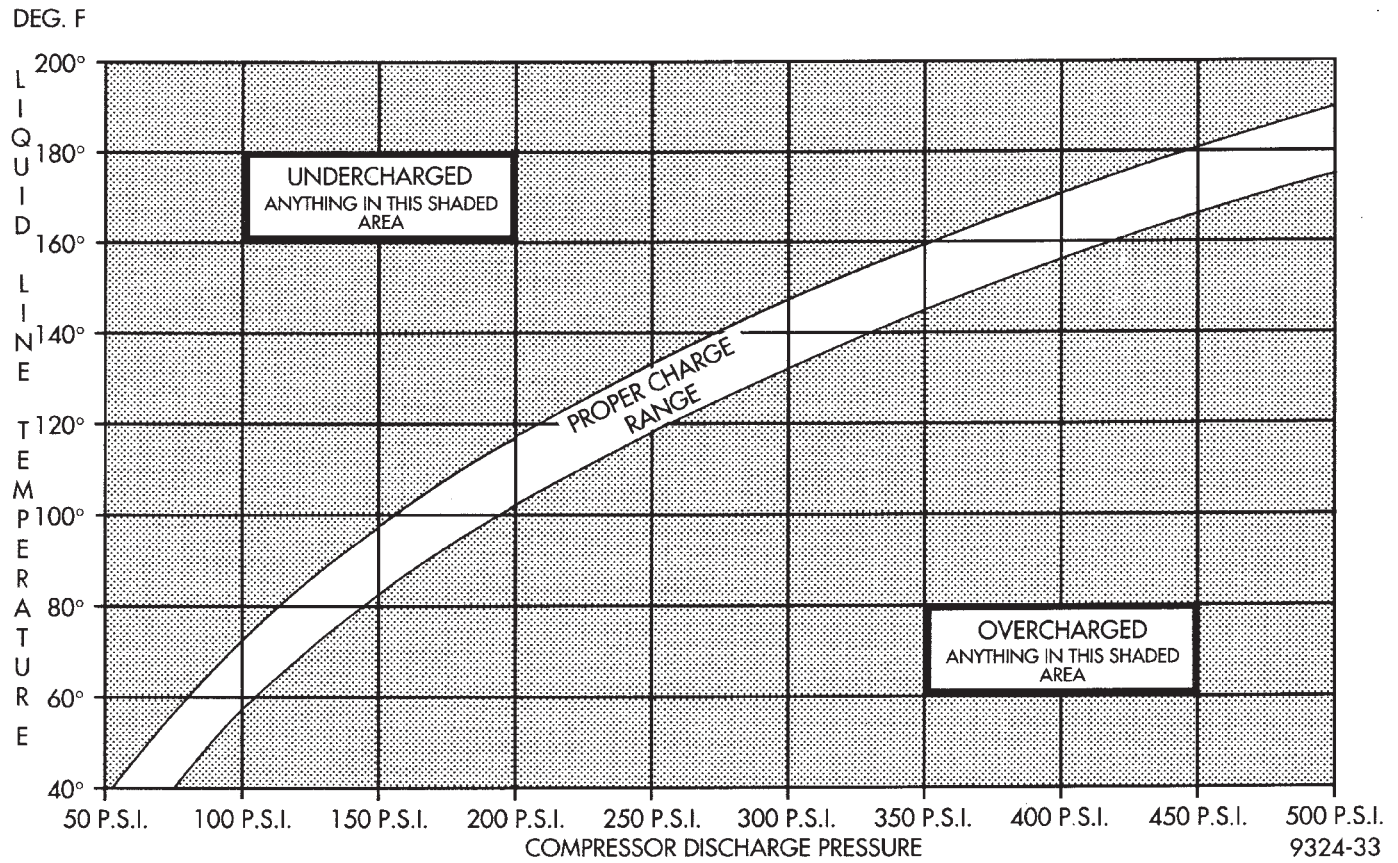

Fig. 5 Charge Determination Graph
(4) Operate system for a couple of minutes to allow the system to stabilize.
(5) Set system pressure to about 1793 kPa (260 psi) by placing a piece of cardboard over part of the front side of the condenser. This will maintain a constant pressure and stop the cooling fans from alternating between high and low speeds.
(6) Observe Discharge pressure and Liquid line temperature. Using the Charge Determination Graph determine where the system is currently operating (Fig. 5). If the system is in the **undercharged** region, ADD 0.057 Kg. (2 oz.) to the system and recheck readings. If the system is in the **overcharged** region, RECLAIM 0.057 Kg. (2 oz.) from the system and recheck readings. Continue this process until the system readings are in the proper charge area on the Charge Determination Chart.